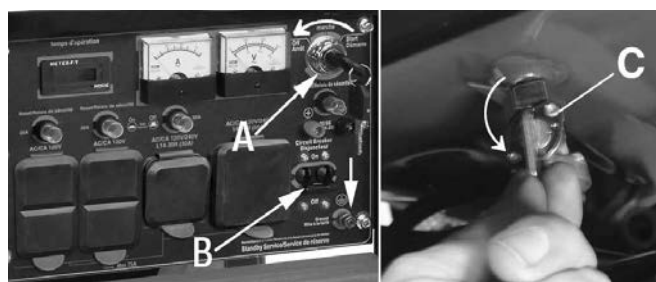

Figure 11
- 1) Turn breaker (B) Fig.11 "OFF" by lowering it.
- 2) Turn the key in the engine power switch (A) to the "OFF" position by turning the key counterclockwise.
- 3) Close the fuel shut-off valve (C) by bringing it downwards.